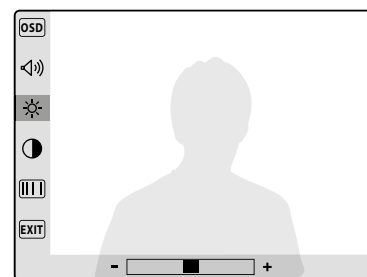

Fig. 18
- The picture brightness (8 levels, **Fig. 18**);